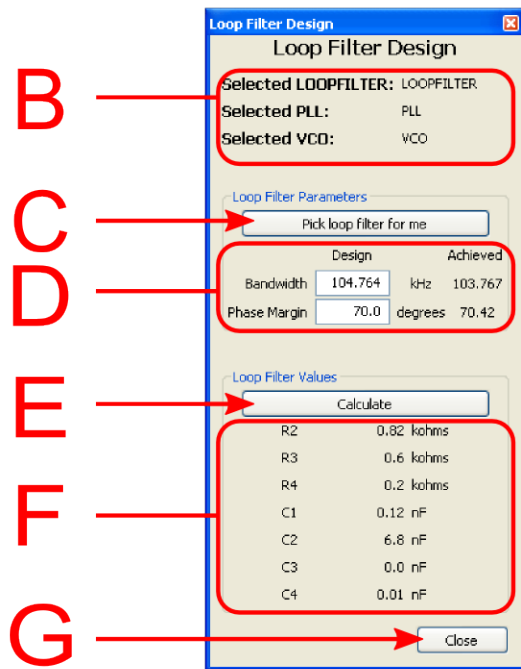

Figure 11: Loop Filter Design
Title block (B), Figure 11, region shows information about the block the loop filter occupies and the block name of the PLL and VCO (or VCXO) with which the loop filter is associated.